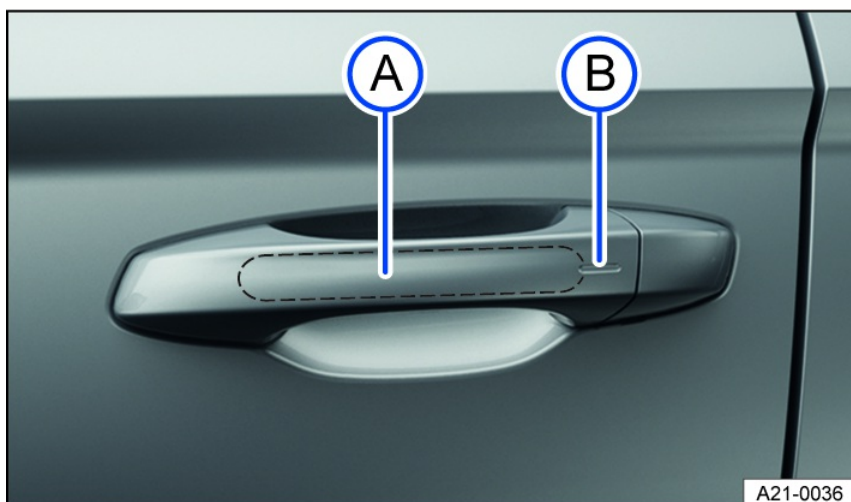

Fig. 52 In door handle: sensors.
1. Touch the sensor fig. 52 on the inside of the driver or passenger door handle.
3. Touch the sensor fig. 52 on the outside of the driver or passenger door handle.
2. Then, within five seconds of locking the vehicle, touch the sensor on the outside of the door handle once fig. 52. Do not grasp the door handle during this process.
1. Press and hold the sensor on the driver or passenger door handle for a few seconds fig. 52 .